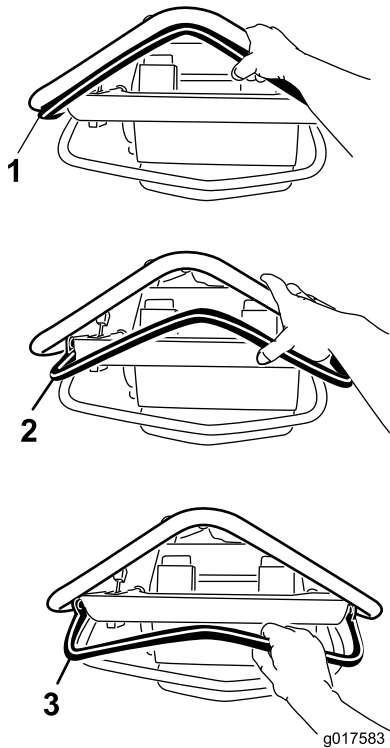

Figure 14
- To move forward, press the control lever forward (Figure 14). The further forward you push it, the faster the machine will travel.
- To move in reverse, pull the control lever rearward (Figure 14). The further rearward you pull it, the faster the machine will travel.
- To stop, release the control lever (Figure 14).